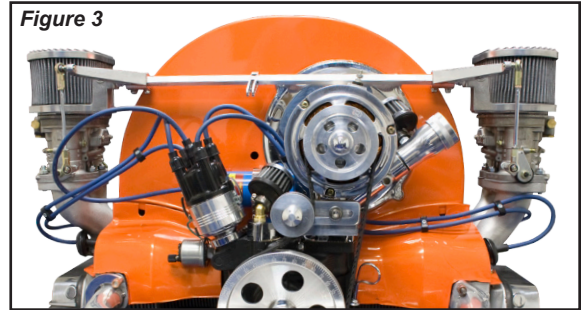

Figure 4
1. Install the linkage mount air cleaner base (See Figure 4) (Leave off element and A/C top) on the left-side (Driver's Side) carburetor, using the lockwashers and nuts provided. (On some models stud removal may be necessary, go ahead and remove studs. Use short and long 6mm bolts and lockwashers that are supplied). **NOTE: DO NOT INSTALL THE RIGHT SIDE COMPONENTS AT THIS TIME. DUE TO THE LENGTH REQUIRED FOR THE HEX BAR TO SEAT PROPERLY IN THE BRACKET, THE RIGHT AND LEFT SIDE ASSEMBLY OF PARTS CANNOT BE DONE SIMULTANEOUSLY.**